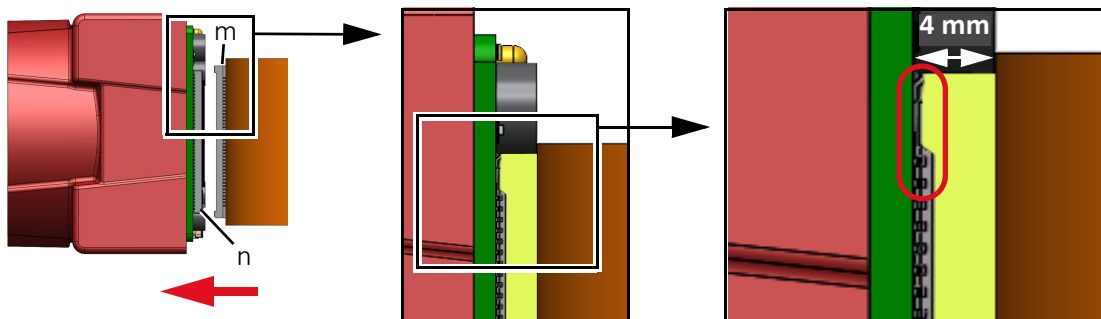

Figure 68: Connecting the interface unit to the sensor unit
3. Connect the cable side FPC connector (m) of the interface unit to the camera side FPC connector (n) until it clicks. Now, connector (m, light green in Figure 68) is in touch (red oval) with the camera board surface.